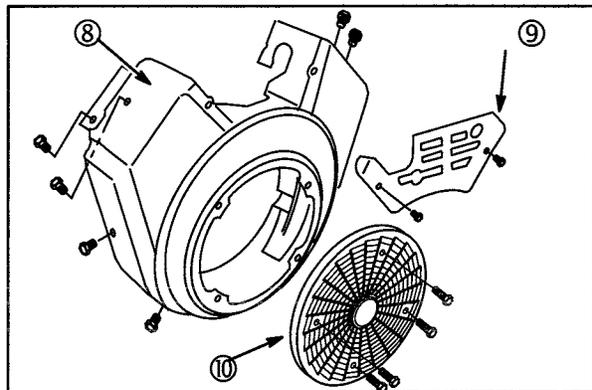

Fig. 36
- Install blower housing (8), **Fig. 36**.
- Install carburetor cover (9).
- Install rotating screen (10).